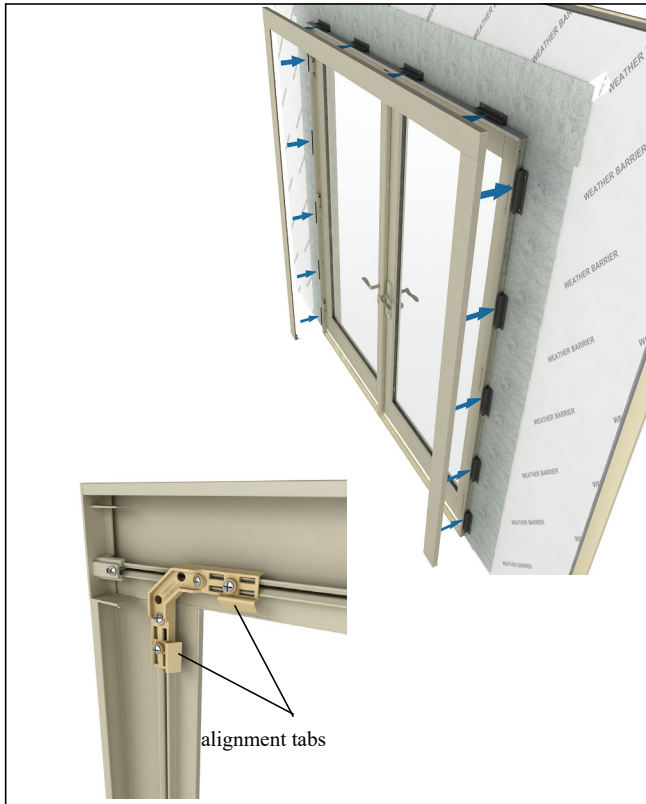

Figure 61
6. Press casing assembly onto connection bars by lining up all corners with the corner key alignment tabs. Press firmly (20-40 pounds of pressure) around the entire casing assembly until it is seated fully over door. **Do not use excessive force, mallets, hammers, etc.** See figure 61.